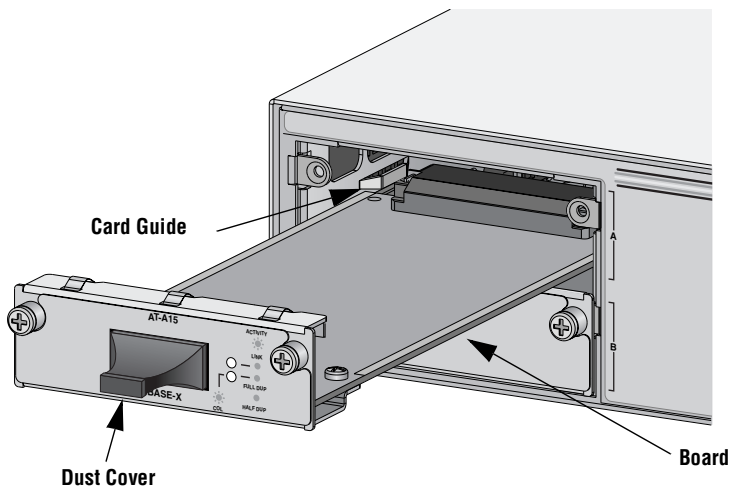

Figure 2 Installing an Expansion Module
4. Slide the module into the empty slot making sure the board is aligned properly with the card guides. Refer to Figure 2.